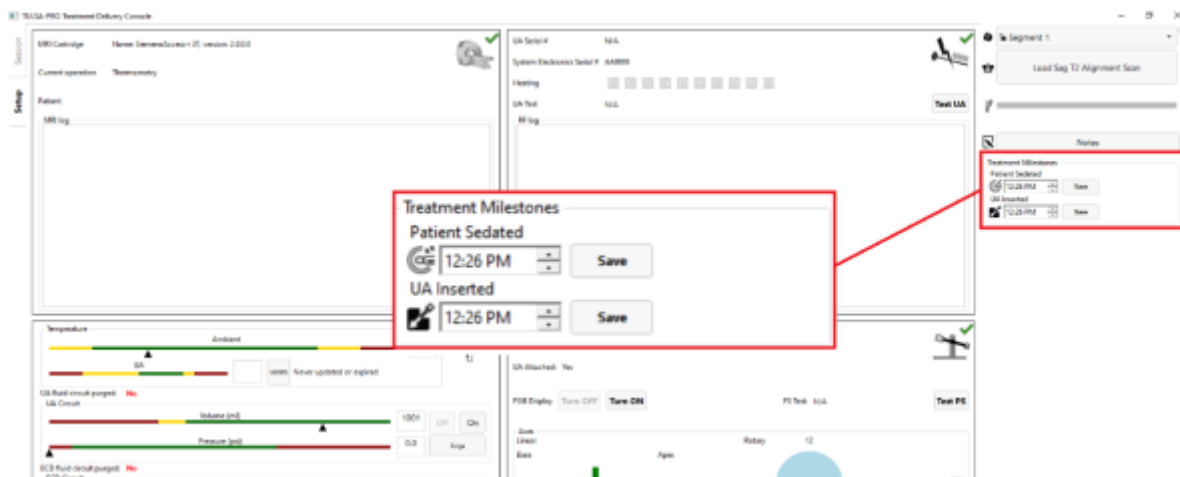

Figure 28: Entering Treatment Milestones in the TDC Setup Workspace
1. In the TDC *Setup* Workspace, enter the sedation and UA insertion times under **Treatment Milestones** (*Figure 28*).